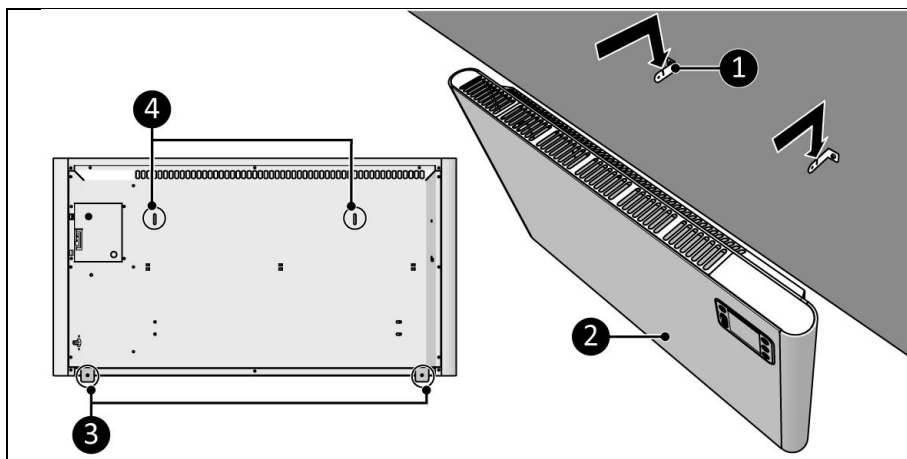

Figure 11
9. Place the bracket holes (Figure 11, pos. 4) over the wall brackets (Figure 11, pos. 1).
10. Let the device (Figure 11, pos. 2) drop into the openings of the wall brackets (Figure 11, pos. 1).
11. Use the device brackets (Figure 11, pos. 3) to mark the bottom hole position on the wall.
12. Remove the device from the wall brackets (Figure 11, pos. 1).
14. Place the device (Figure 11, pos. 2) back on the wall brackets (Figure 11, pos. 1).